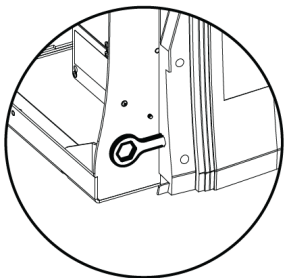

Figure 28. Taper Clamp Wrench Storage
1. Taper clamp wrench is supplied in the ship-with kit and is stored on the right side of the operator chassis (Figure 28).